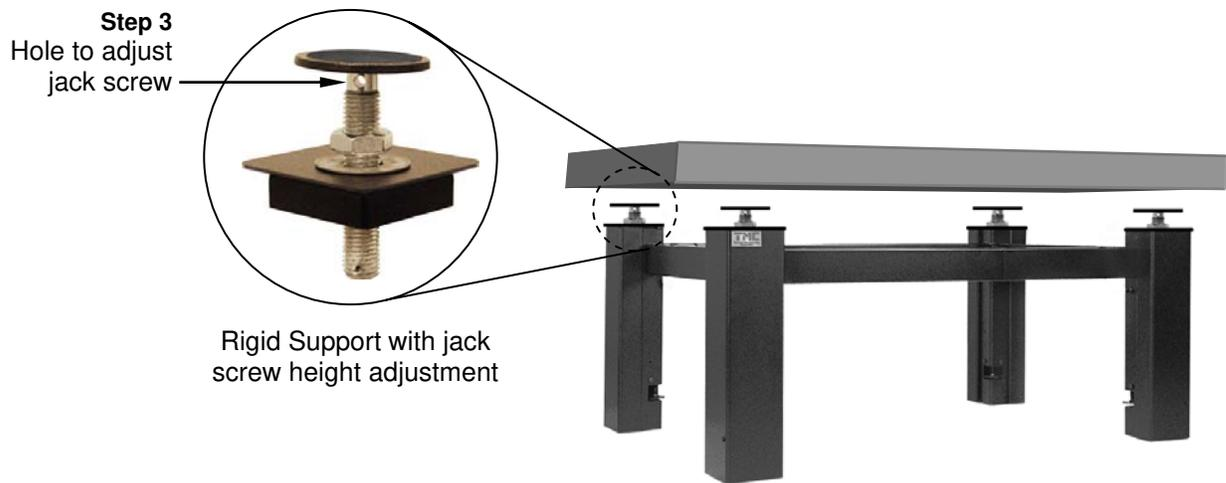

Figure 12 Typical 4 post assembled frame
Step 3 Adjust *rigid support* height by inserting a screwdriver or other type of bar into threaded-rod hole and rotate jack screw. Reference figure 12 above.